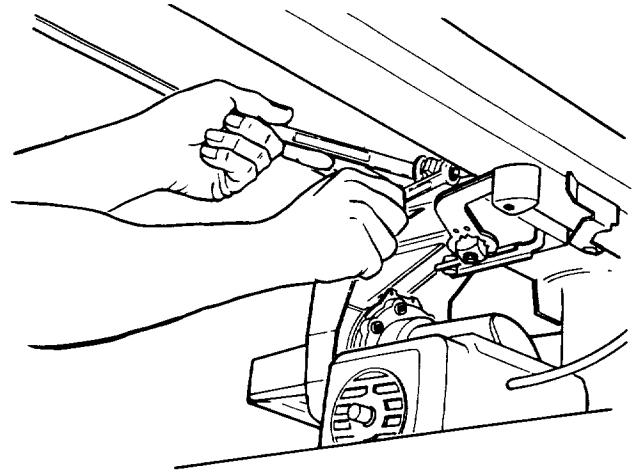

Fig. 159 - Location of Hex Nut
2. To adjust the bearing, use a 9/16 inch wrench to hold the bolt head while using a 1/2 inch wrench to loosen the hex nut. (Figure 159)